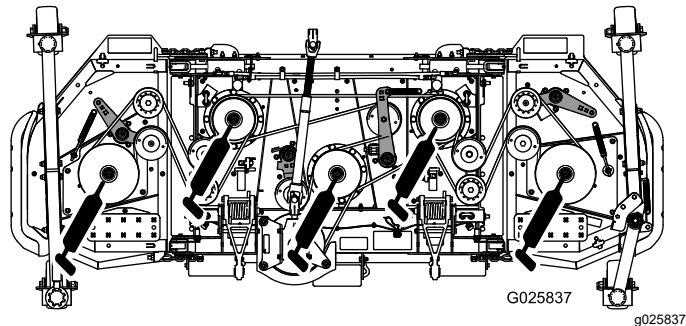

Figure 19
- Spindle shaft bearings (5) (Figure 19)